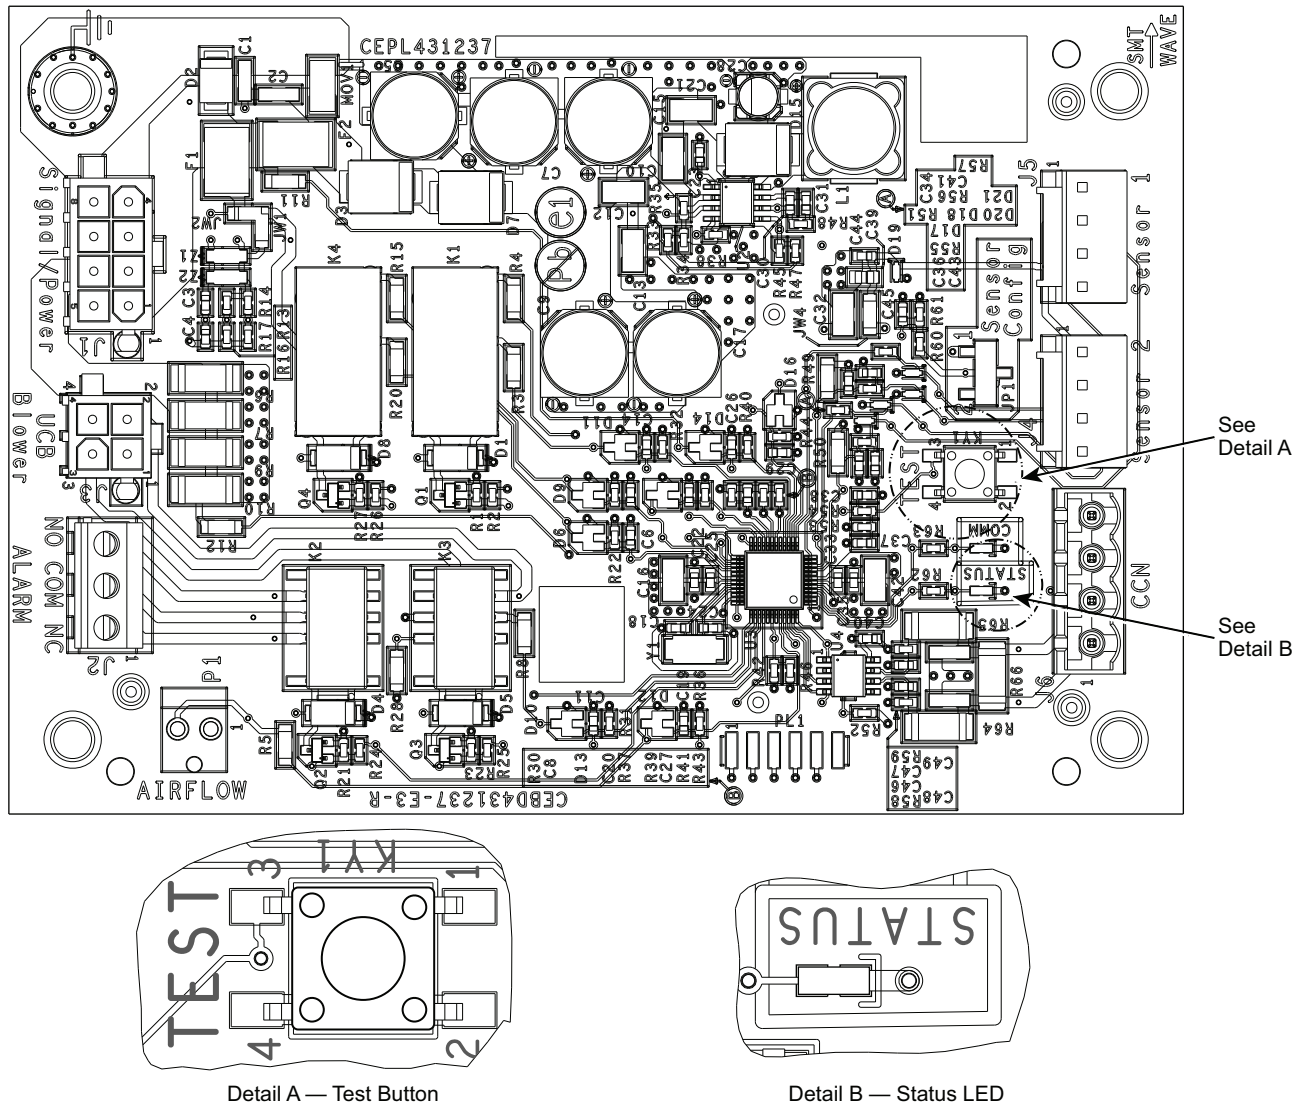

Fig. 19 — A2L Dissipation Board Details
4. Locate the test button on the A2L leak dissipation board. See Fig. 19 on page 16 dissipation board details.